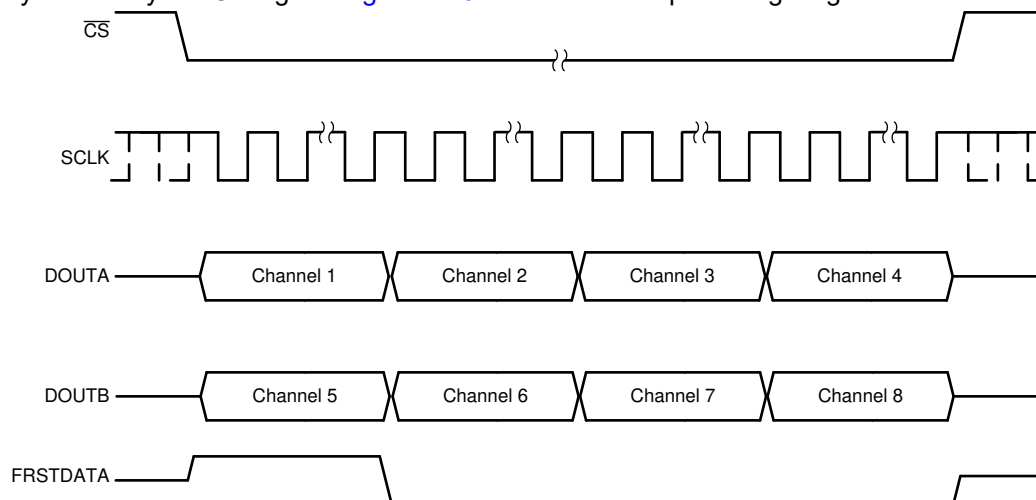

Figure 7-19. Data Read Back in the Serial Interface Using Both DOUTA and DOUTB Timing Diagram
- In order to minimize the time for the data read operation in serial mode, both DOUTA and DOUTB can be used to read data out of the device. In this case, the conversion results from the first set of channels (channels 1-4) appear on DOUTA and the conversion results from the second set of channels (channels 5-8) appear first on DOUTB. To read the data for all channels, provide a total of $16 \times 4 = 64$ SCLK cycles. This entire data frame can be created within a single \overline{CS} pulse or each group of 16 SCLK cycles can be individually framed by the \overline{CS} signal. Figure 7-19 shows an example timing diagram.